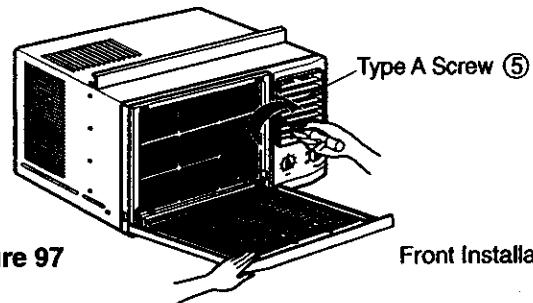

Figure 97
- Open the filter door. (See Figure 97)
- Tighten the TYPE A screw ⑤ through the front grille. (See Figure 97)